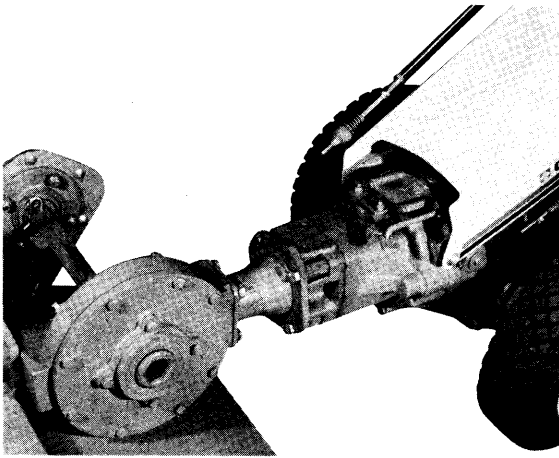

Fig. 6
2. Bolt the Cultivator Drive to the tractor with the four bolts supplied in the hardware pack. See Fig. 6.